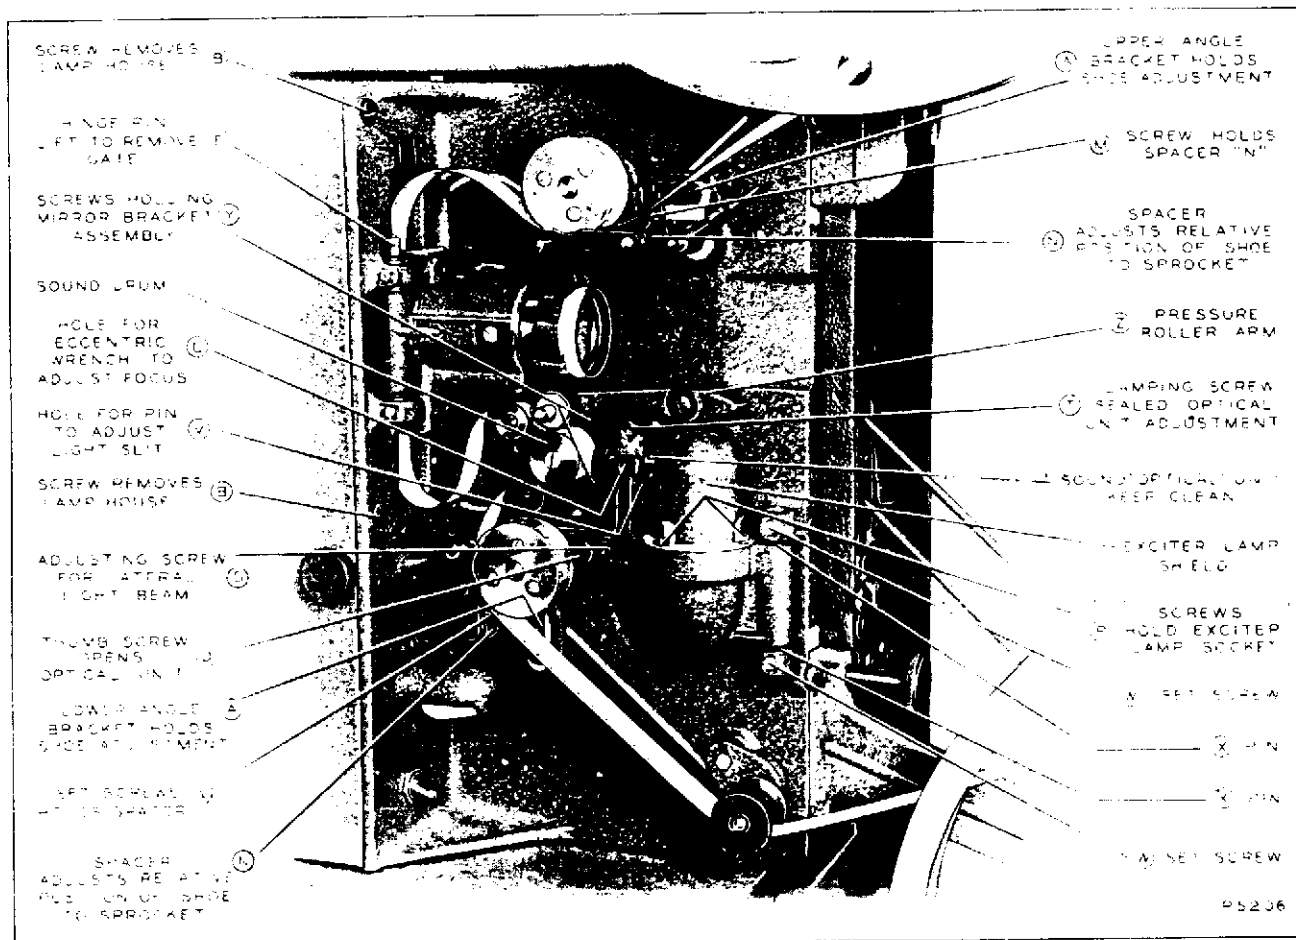

Figure 15—Operating Side of Projector for Servicing
(1) Remove the two screws B (fig. 15) from the front and the single screw from the rear of the projector frame.
(2) Disconnect the three wires from the terminal board.
(a) Remove the three screws P (fig. 15) and lift the lamp socket out of the bracket.